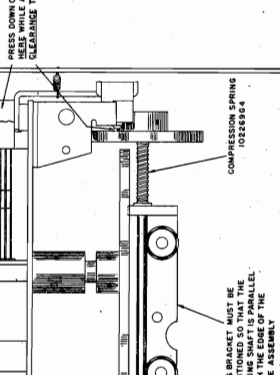
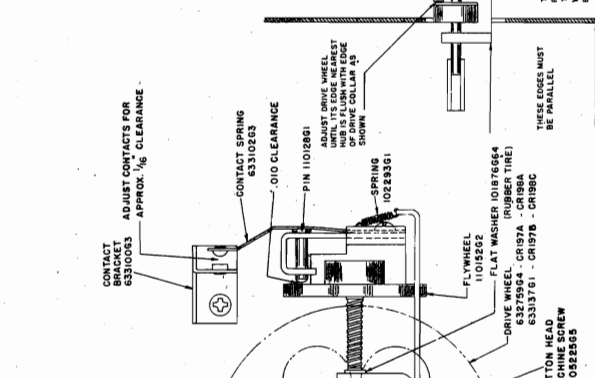

FIGURE 4
FIGURE 5
Whenever any of the mechanical parts in the condenser gang drive assembly require replacement due to rough handling or for any other reason, it is extremely important that clearances and adjustments shown on Figures 4 and 5 are correct; otherwise, the tuning mechanism will be sluggish or it may slip during operation.
1. Assemble the Tuning Shaft, Drive Collar, Compression Spring and Flywheel in the order shown on Figure 5. The distance between the front of the Drive Collar and the front of the Tuning Shaft must be  $1\frac{1}{4}$  inches as specified on Figure 4. Install the Flywheel on the rear of the Tuning Shaft and slide it forward until it nearly touches the edge of the Drive Wheel; then tighten one of the set screws in the Flywheel hub. Insert a .010" gauge between the Flywheel and the Pin, and while holding the gauge in this position, loosen the set screw in the Flywheel hub that was previously tightened. The Compression Spring should force the Flywheel back against the gauge—when this occurs, tighten both set screws in the Flywheel hub.
3. The Drive Wheel is properly located on its shaft when its edge nearest the hub is in line with the outside edge of the Drive Collar as shown on Figure 5. Two Allen set screws in the Drive Wheel hub provide a means of adjusting the position of this wheel.
5. If the push button shafts at both ends do not engage the Treadle Bar as shown on Figure 5, the three screws in the Treadle Bar must be loosened and the Treadle Bar should be moved until the required condition is obtained.